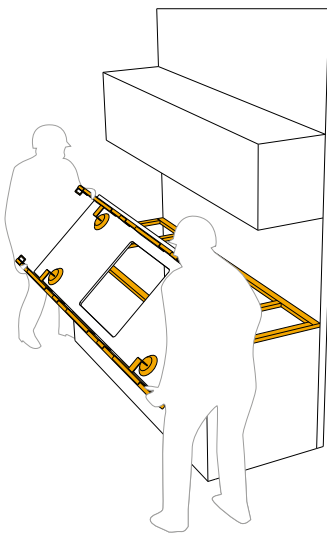

fig. 5
| fig. 5
- For L-shaped cuts or cuts inside the slab, Infinity recommends first drilling holes in the position marked for the vertices to prevent the surface from being damaged with the blade of the grinder (fig. 5);
- Expansion joints of at least 3 mm between the countertop and the back-splash, if present, are recommended, in order to counteract any uneven areas on the walls or possible structural movements of the building, thus preventing excessive strain, which could in turn lead to the slab breaking (fig. 5). The strip at the back of the countertop must always be positioned over the countertop and sealed with silicone.